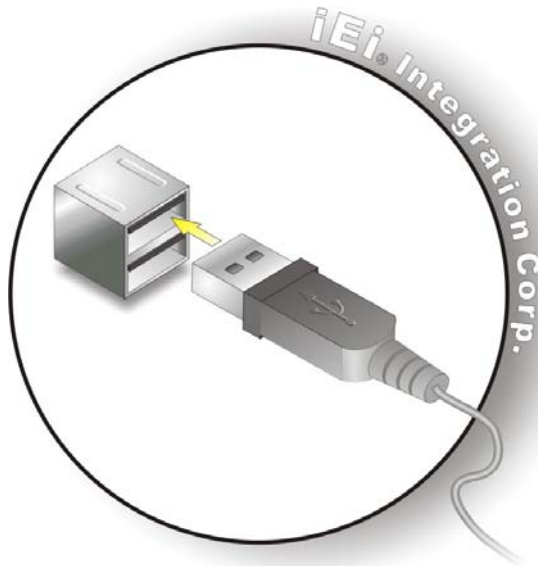

Figure 4-14: USB Connector
Step 2: Insert a **USB Series "A" plug**. Insert the USB Series "A" plug of a device into the USB Series "A" receptacle on the external peripheral interface. See **Figure 4-14**.